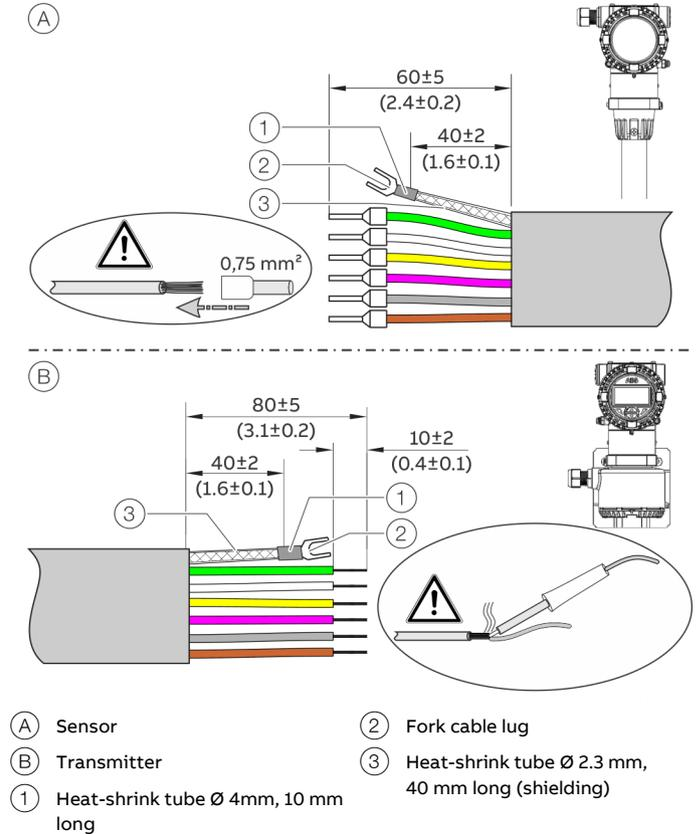

Figure 43: Signal cable, dimensions in mm (in)
The signal cable can also be cut to any length. Then the cable ends must be prepared as shown in Figure 43.
3. Produce the signal cable in accordance with the specification (see **Figure 43**).